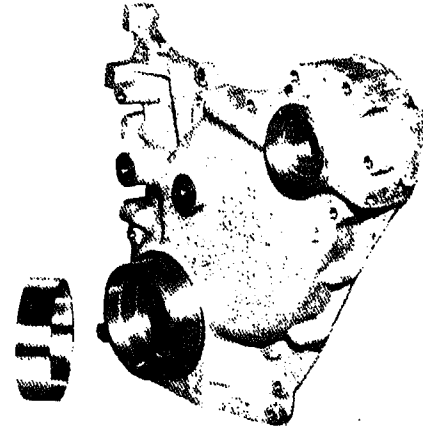

Fig. 1-11-1. Gear case cover and trunnion bushing
2. Machine gear case trunnion to 4.747/4.750 in. [120.5738/120.65 mm] outer diameter. Fig. 1-11-1.